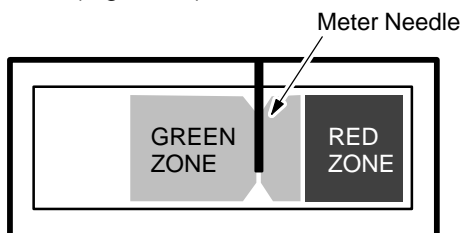

FIG. 13
5. Adjust pad pressure meter within Green Zone. Press the pad pressure switch to decrease or increase pressure. For best results adjust needle as shown (Figure 13).